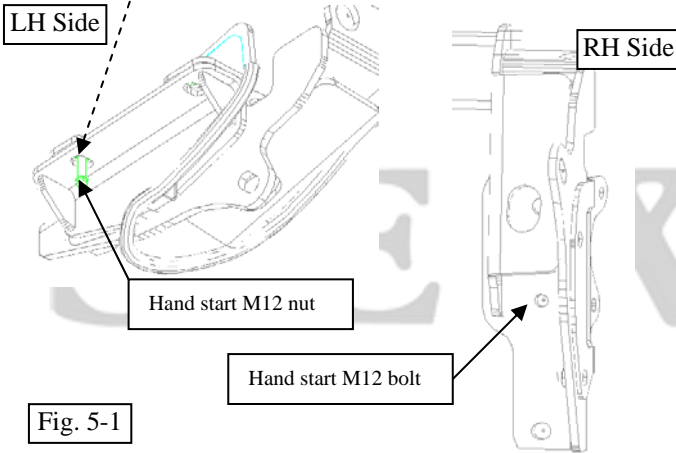

Fig. 5-1
- (a) Carefully raise hitch into position and hand start the M12 nut and bolt to secure hitch as shown (Fig. 5-1).